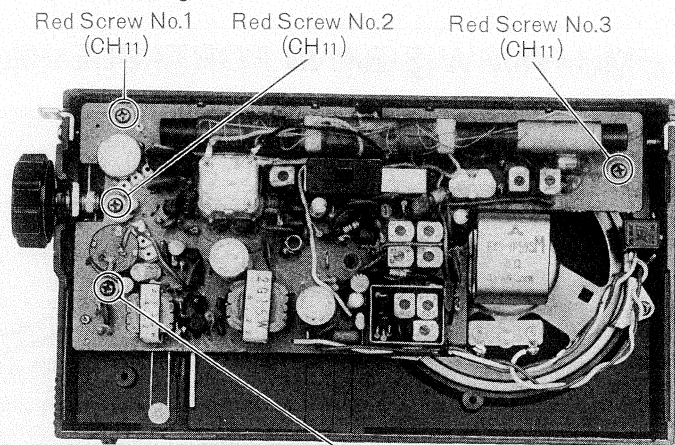

Fig. 2
5. Remove four (4) red chassis screws, nos. 1~4, as illustrated in fig. 2.